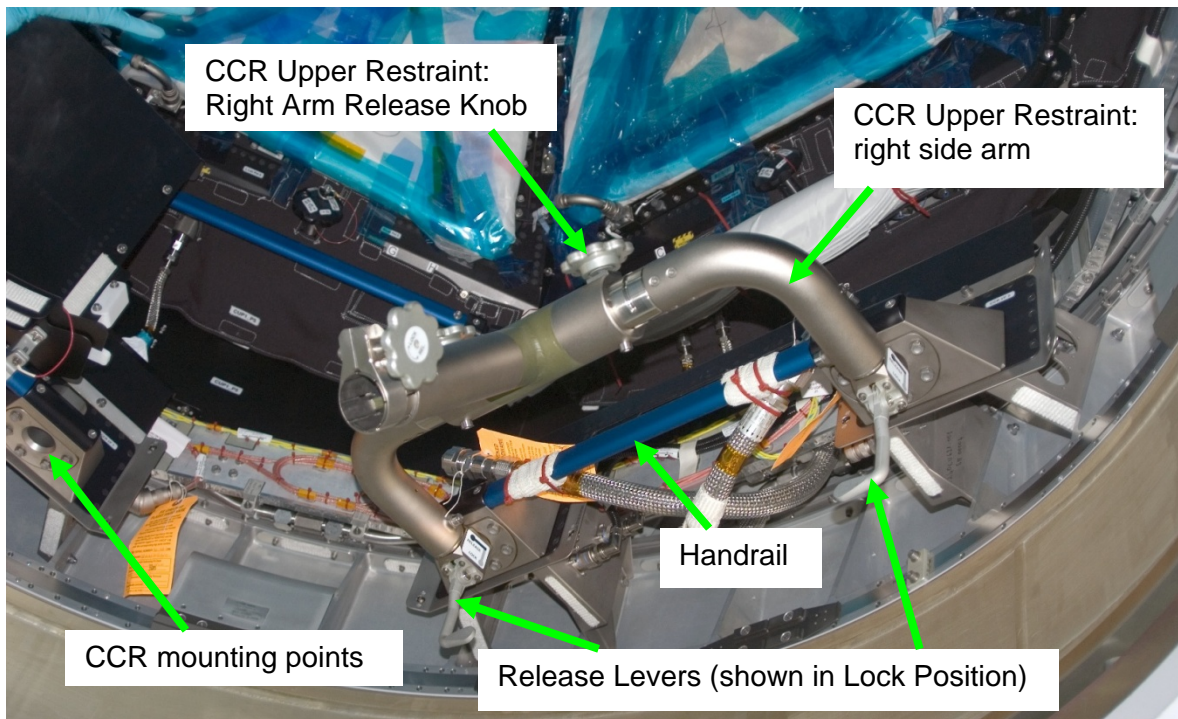

Figure 2. Mounting Location Directly in Front of Cupola Handrails
1. There are eight possible mounting positions for the Cupola Crew Restraint (CCR): directly in front of a Cupola Handrail (see Figure 2) or between a set of Handrails (see Figure 3).
Rotate Left Arm ~90 degrees, referring to Figure 2.